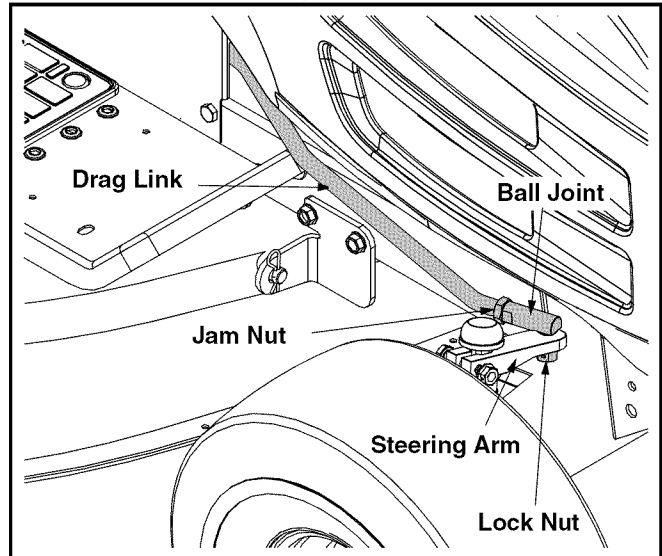

Figure 20
- Remove the lock nut which secures the ball joint to the steering arm. See Figure 20.
- Loosen the jam nut (See Figure 20) and thread the ball joint either inward or outward until it aligns with the hole in the steering arm.